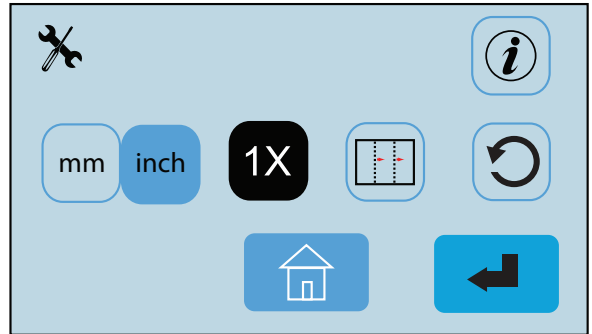

Fig. 36
1. From the Operator Settings screen (Fig. 36) press the measurement setting icon  (Fig. 37) to change between settings. The icon highlights in blue is the selected setting. By changing this setting the paper sizes will change from standard to metric or vice versa.